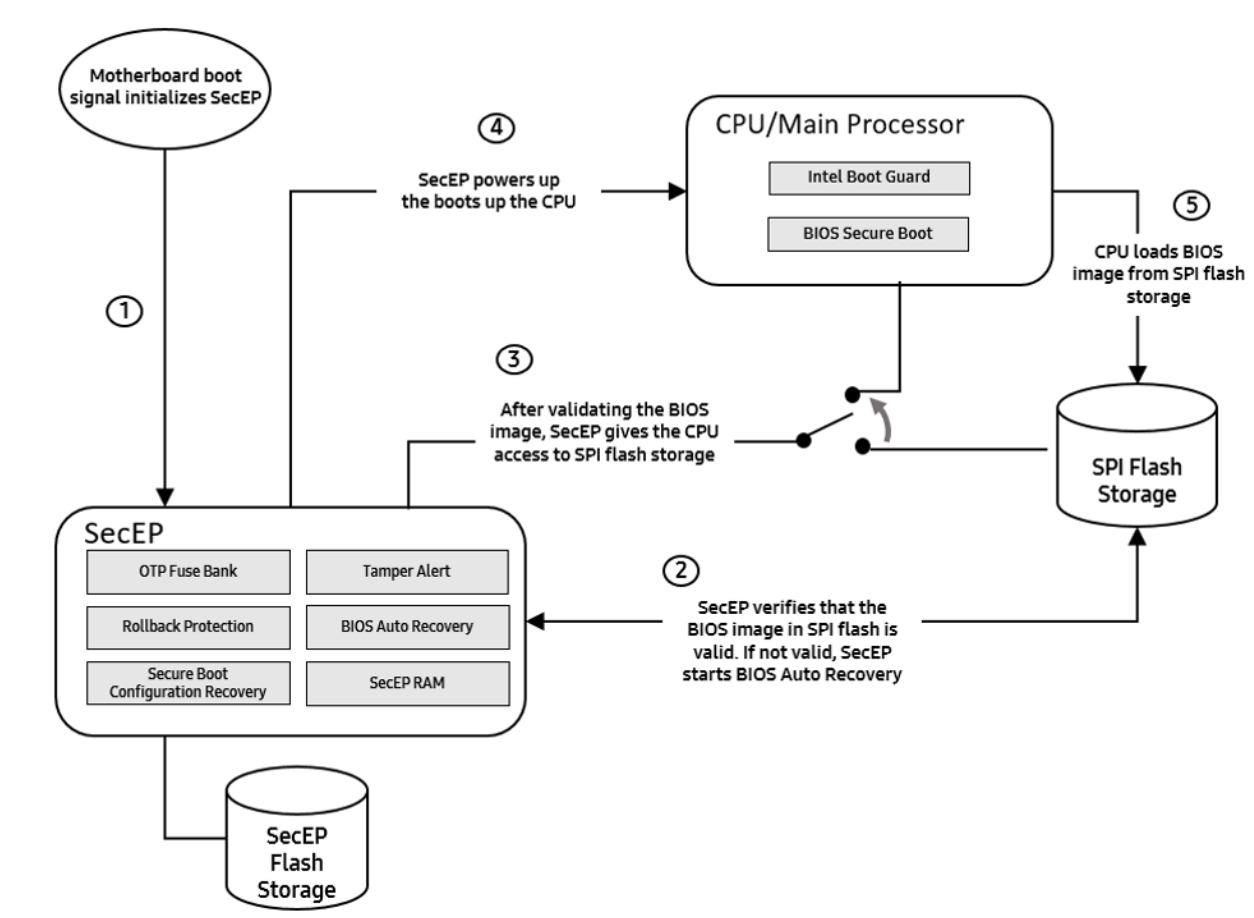

Figure 2: SecEP protection during boot up
These layers of protection are put in place to prevent the device from loading and executing corrupt firmware and compromising the system. **Figure 2** further describes how the SecEP protects the CPU during the boot sequence.
- First the SecEP reads the BIOS RSA2048 OEM public key from SPI flash storage as illustrated in **figure 2, step 2**. This key is checked against a SHA384 hash stored in the SecEP's fuse bank. If the key is valid, the SecEP then checks the BIOS version number against the Rollback Protection Value stored in the SecEP fuse bank.
- Once both the BIOS public key and version number are validated, the SecEP gives the CPU access to SPI flash storage in order to load the BIOS, as illustrated in **figure 2, step 3**.
- The SecEP then powers on the CPU. Once CPU has power, it can load the BIOS from SPI Flash Storage, as illustrated in **figure 2, steps 4, and 5**.